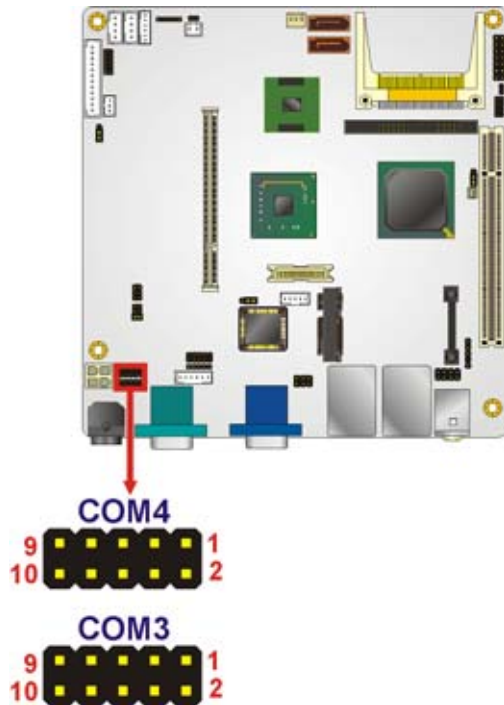

Figure 4-18: RS-232 Connector Pinout Locations
- CN Location:** See Figure 4-18